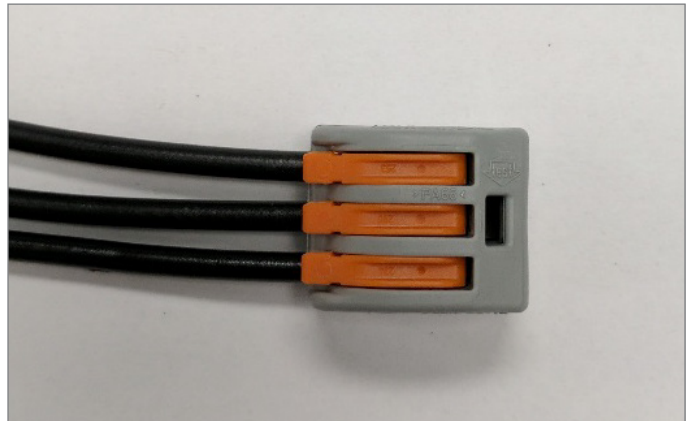

Figure 18 - After installing line voltage motor connection in 3-position lever nut for dual motors
- vi. Take BLACK wire removed from "LINE VOLTAGE IN" portion of FCRB in Step 4 and install on male quick-connect/BLACK wire on WH3. (See Figure 18).
1. **(DUAL MOTORS ONLY)** Cut off male quick-connect on WHITE wire on WH3. Locate the two WHITE wires removed from "TO FAN MTR" portion of FCRB in Step 3. Install all three wires into the 3-position lever nut. (See Figures 18 and 19.)